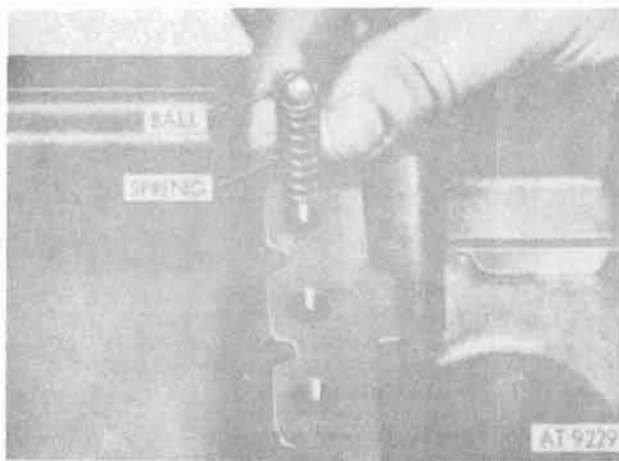

Figure 8-96. Detent balls and springs.
j. Remove three detent balls, three springs and two interlocking plungers (fig. 8-96).
b. Position three shifter detent balls and three springs in housing bores (fig. 8-102). Refer to figure 8-96 for procedure.
l. Install third- and fourth-speed shifter fork on shifter shaft. Refer to figure 8-96.